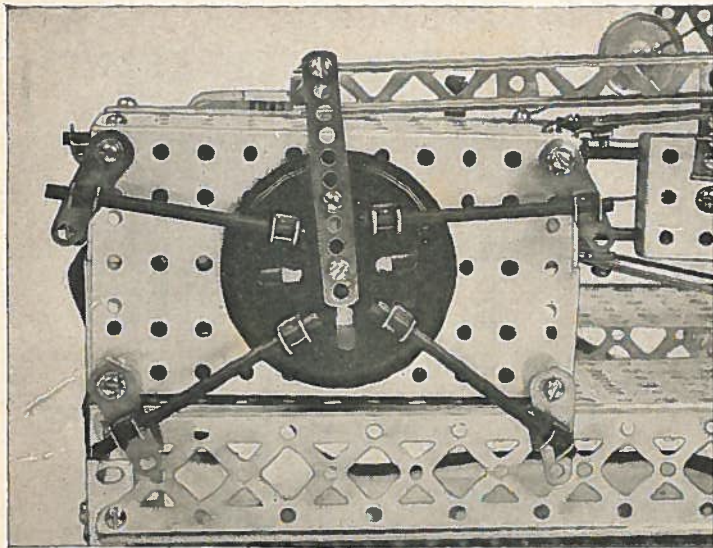
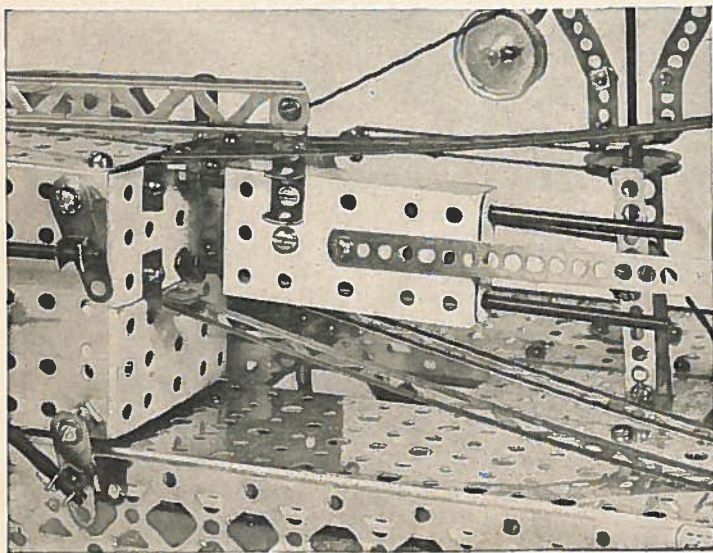

FIGURE 3
FIGURE 4
A replica of the steam cylinder with valve action is shown in Figure 3 and Figure 4. The steam cylinder is built with (MD) $2\frac{1}{2}$ " x 5" base plates for sides and 2 (MF) 1" x 5" base plates on top. The ends are made with 2 (MC) 1" x $2\frac{1}{2}$ " base plates. The box should be built separately with the valve mechanism fastened to it. The valve mechanism is a (BN) regular turret plate fastened to a (BT) pierced disc which is held to the side base plate with an S62 $\frac{7}{8}$ " x 8-32 screw so it is free to turn. Four (AA) eccentric cranks are fastened, one to each corner, of the side base plate with S62 screws. To the turret plate and eccentric cranks are fastened P37 collars and (AS) $\frac{2}{8}$ " axle rods—See Figure 3. A (BY) 11 hole fibre strip is fastened to the turret plate.
To the front end of the upper (MC) 1" x $2\frac{1}{2}$ " base plates are fastened 4 (CH) right angles as shown in Figure 4.